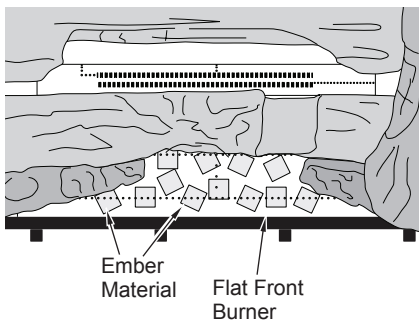

Figure 27 - Placement of Embers
6. Add embers to front flat burner. Gently remove embers from the bag using gloves or tweezers. **(This material is a skin irritant. Gloves or tweezers are recommended to prevent skin irritation).** Separate pieces of ember material and place over surface of flat burner (see Figure 27). Spread ember material evenly over surface for greatest glowing effect. **Do NOT place ember material anywhere else on the unit.** Use only ember material supplied with unit. Excessive ember material may produce carbon monoxide or soot.
⚠ WARNING: Do not operate unit without ember material correctly in place as shown in Figure 27.